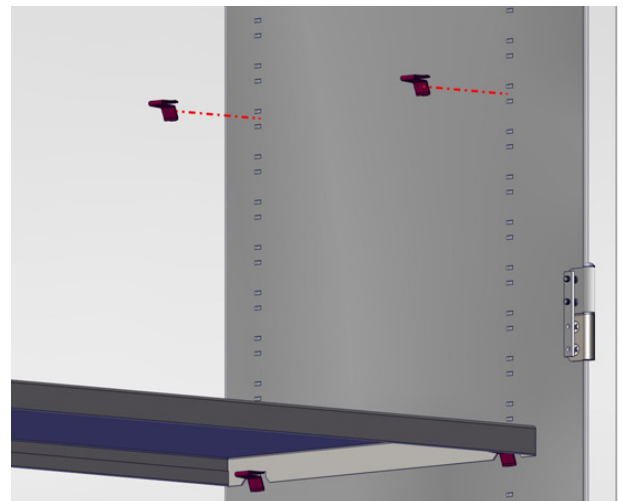

Fig. 24: Remove Support Clips
3. Remove the four (four per shelf) shelf supports clips by tilting the clip upwards and lifting out (Fig. 24).